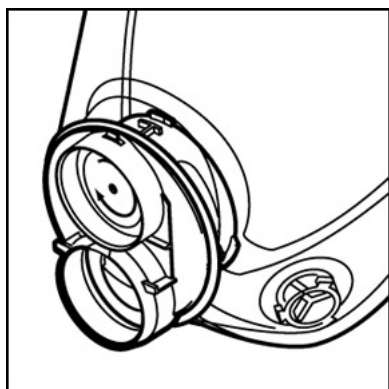

Fig. 15
4. Place new valve 6872 over the exhalation port putting valve stem into center hole. Be certain the valve is fully seated and spins freely in mount. (Fig. 15)